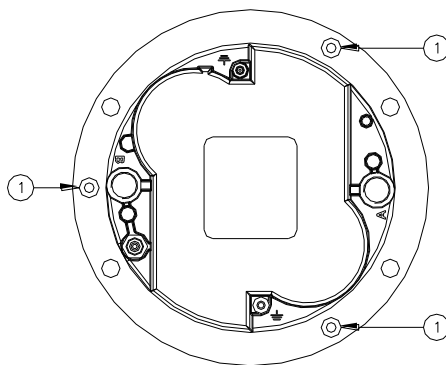
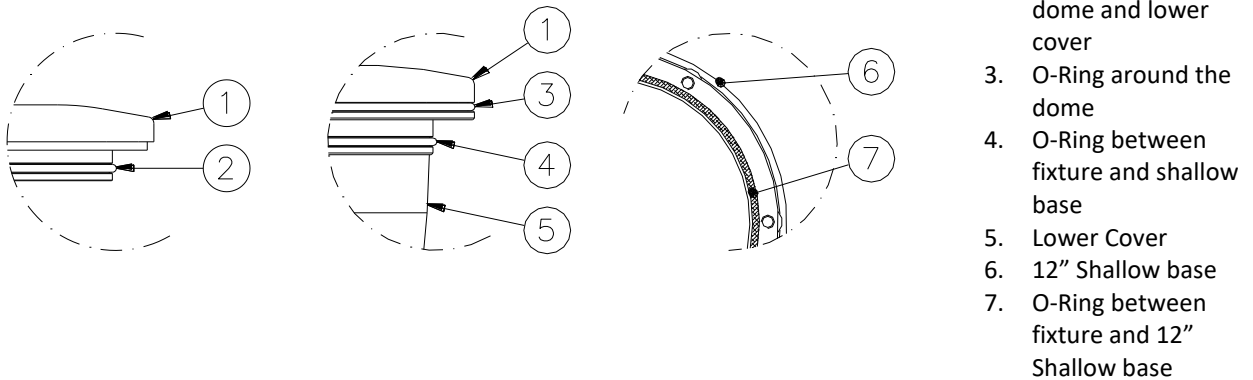

Figure 19 - Lower Cover Fixing Screws
Figure 21 – Fixture Gaskets
- Open the fixture by unscrewing the three locking screws HSFH M5x10 (Figure 19 - n°1).
- three locking screws HSFH M5x10 (Figure 19 - n°1);
- O-Rings between dome and lower cover (Figure 21 – n°2);
Verify the correct position of O-Ring between dome and lower cover (Figure 21 – n°2);, mount the lower cover on the dome and fasten it by means the three screws HSFH M5x10 (Figure 19 - n°1). One drop of anaerobic adhesive lower type (e.g. LOXEAL 24-18) should be applied to the screws before installation; tightening torque is 2.5 Nm.
- O-Ring around the dome (Figure 21 – n°3);
- Gasket between fixture and 8" shallow base (Figure 21 – n°4);
- O-Ring between fixture and 12" shallow base (Figure 21 – n°7);